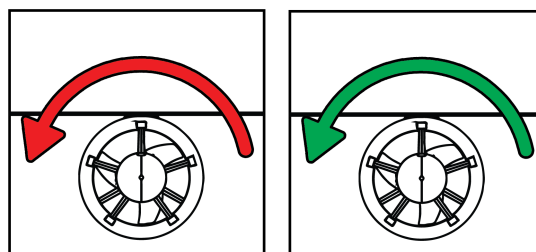

Figure 25: Hydrone™ RCV Prop Rotation
- Motor must rotate counterclockwise(CCW) (Figure 25)